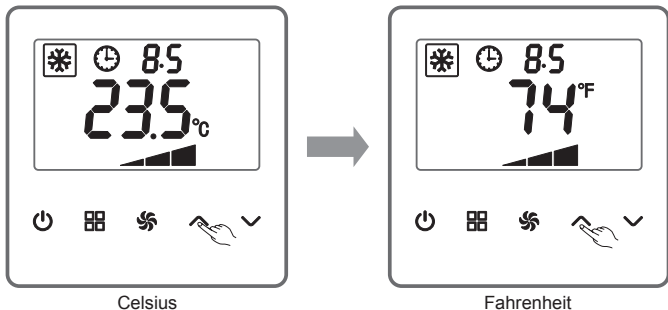

Figure 3
(3) When the temperature unit is Fahrenheit, one press of the UP key or the DOWN key causes a 1°F increase or decrease within 61°F~95°F.
(4) When keeping pressing the UP key or the DOWN key, the temperature varies every 0.5 second.
(5) As shown in Figure 3, the indoor ambient temperature display, if activated, will appear by default after the unit is started. A desired temperature being set appears temporarily. Later, the default temperature will reappear without any operation in 5 seconds.